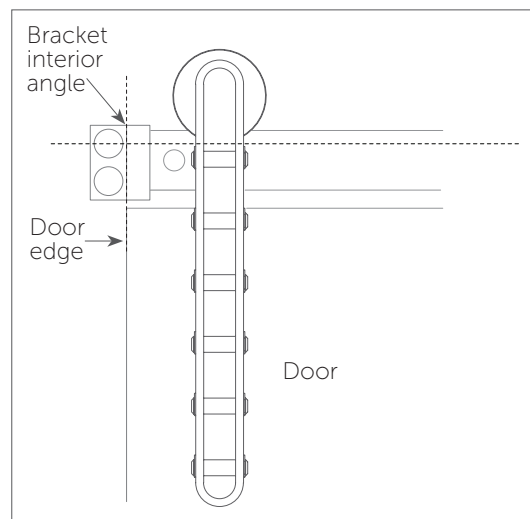

Figure 2
3. The interior angle of the bracket should be in line with the edge of the door. This is individual preference and will depend on how far beyond the doorway the door will overlap. Draw a vertical line where the door will hang in the closed position (Figure 2).
4. Position an end bracket so the interior angle of the bracket is in line with the vertical line and the line above the door is centered in the top hole of the bracket (Figure 2). Using a pencil, mark the position of both top and bottom holes.